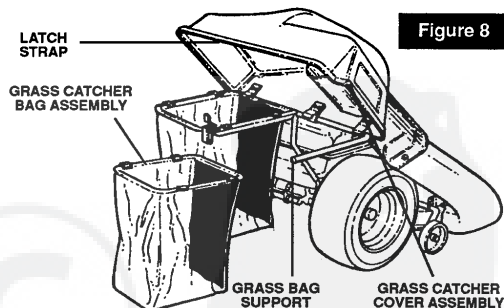

Figure 8
3. Unlock bagger latch from edge of cover (figure 8).